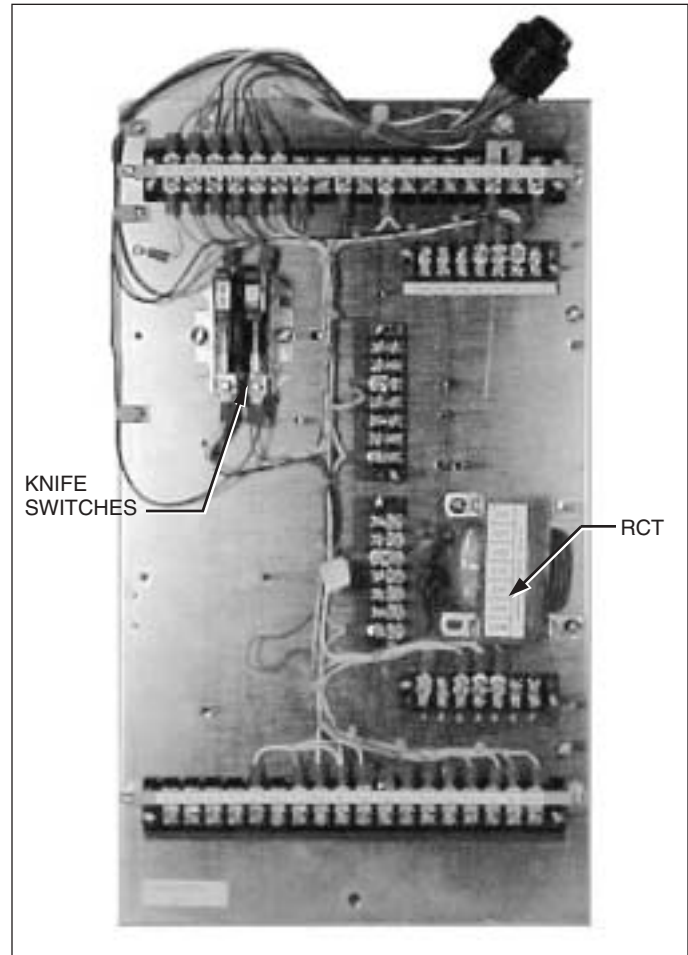

Figure 1-6.
3. Knife switches on back panel should be set with V₁ (potential switch) (and V₆ if present) closed (pushed in), and C (CT shorting switch) open (pulled out). See Figure 1-6.
4. Close source-load (SL) disconnect switch if available.
5. Close source (S) disconnect switch.
9. Close load (L) disconnect switch.
3. Knife switches on back panel should be set with V₁ (potential switch) (and V₆ if present) open (pulled out), and C (CT shorting switch) closed (pushed in). See Figure 1-6.